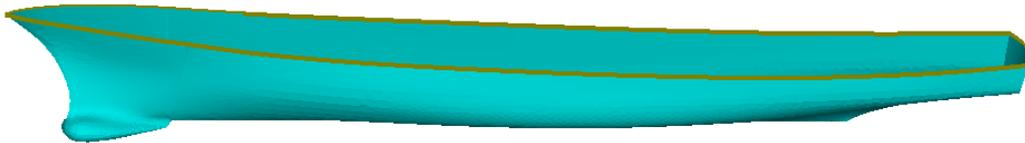

Figure 3.31: Surface boundary (border)
***Border*** button is used to visualize the boundary of the current surface. It will place an *olive* color path around the entire border of the current surface. By switching off, the button will remove the same path. The border for the current surface is shown in Figure 3.31.